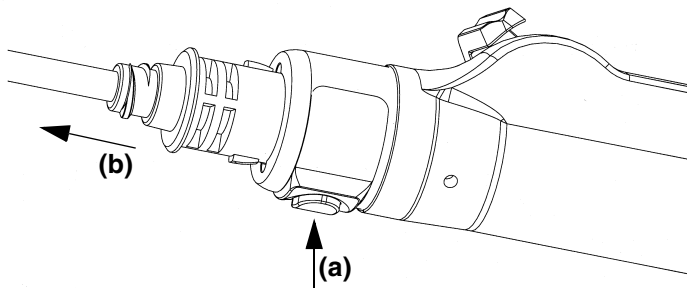

Figure 4: Removing a blade
4. To remove a blade, press the quick-release button on the handpiece (a) and withdraw the blade (b). (See Figure 4.)